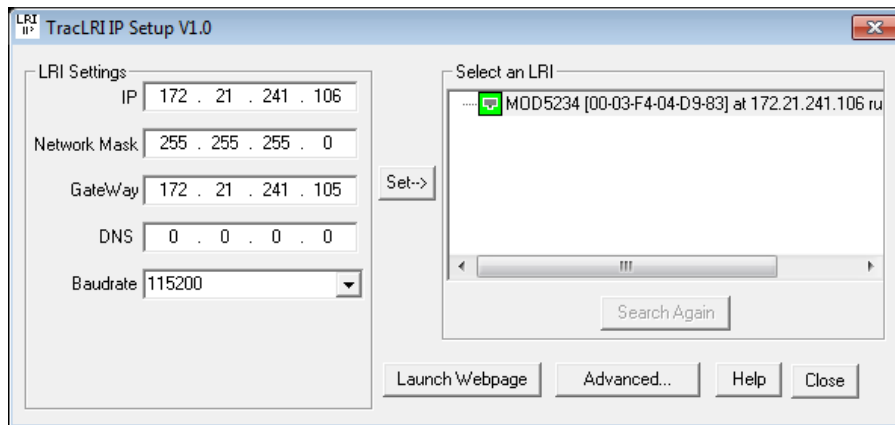

Figure 2. TracLRI Setup Window
4. Open the TracLRI Setup program and verify that the TracLRI appears in the "Select an LRI" window on the right-hand side of screen. **Fig.2**